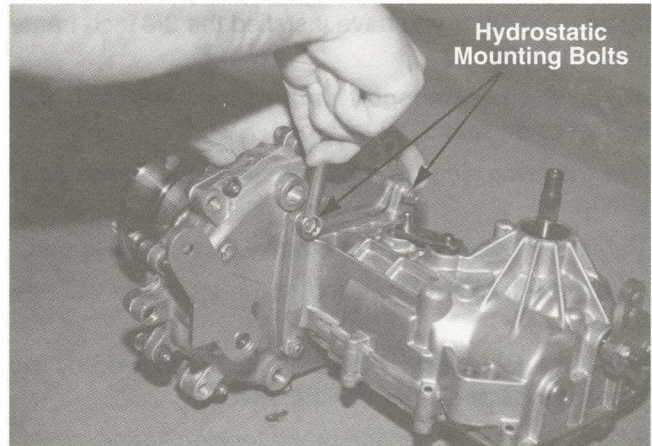

FIGURE 3.
3. Separate the hydrostatic pump from the housing by using a 9/16 wrench and removing the four nuts securing the pump. See figure 3.